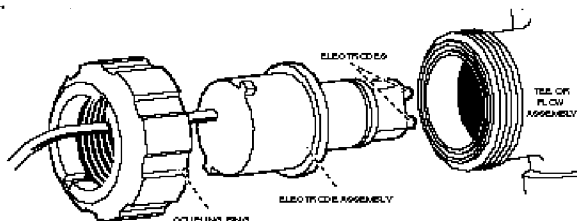

Fig. 11, Electrode
- 4) Unscrew coupling ring. Do not align slots on coupling ring with tabs on electrode housing, grip coupling ring and remove electrode by pulling straight out. (See Fig. 11, Electrode)